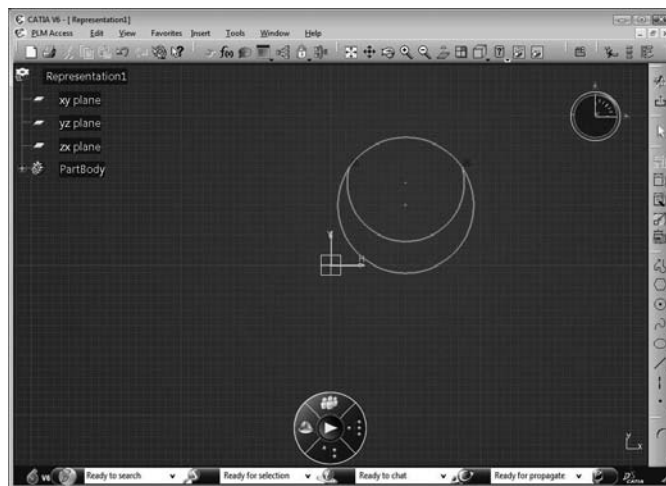

FIGURE 2.51
3. Click on the selected part of the sketch that is to be quick trimmed (Figure 2.49). The quick-trimmed sketch appears, as shown in **Figure 2.51**:
In Figure 2.51, the selected part of the sketch is quick trimmed. After learning to quick trim a sketch, we next learn how to extend a sketch.